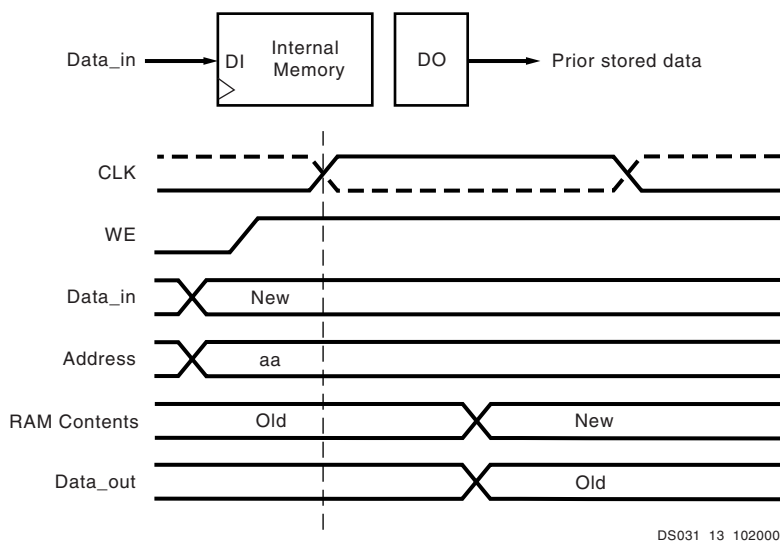

Figure 31: READ_FIRST Mode
The same clock edge that writes data input (DI) into the memory also transfers the prior content of the memory cell addressed into the data output registers DO, as shown in Figure 31.